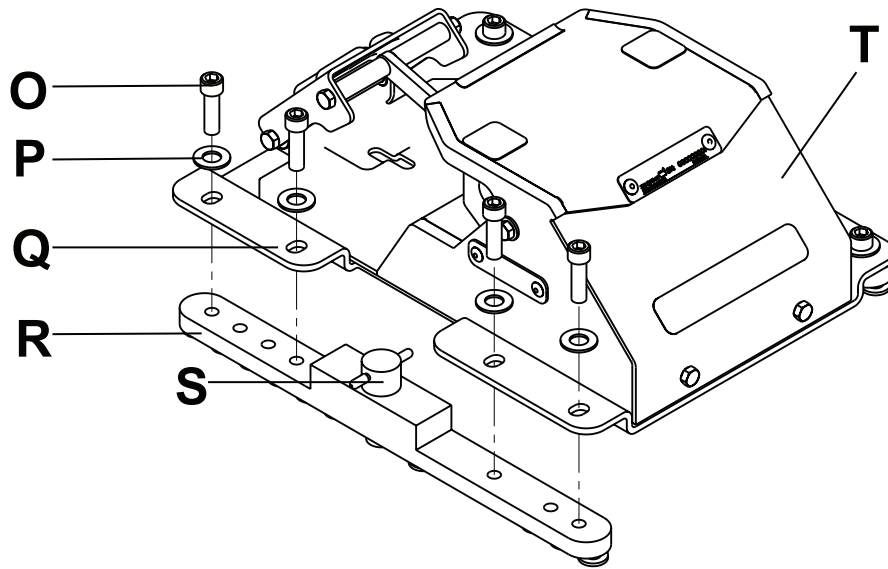

Figure 7 – Assemble the foot end fastener
1. Position the eight washers (P) between the eight screws (O) (four on each side) and the foot end fastener lock down base plate (Q) (Figure 7).
Note - Position the track mounted fastener (Unwin adaptor) (R) under the lock down base plate (Q) with the black arrow on the Unwin adaptor facing toward the head end of the ambulance (Figure 7).
2. Loosely tighten the screws (O) to attach the track mounted fastener (Unwin adaptor) (R) to the foot end fastener lock down base plate (Q) (Figure 7).
5. Unlock the plunger on the track mounted fastener (Unwin adaptor) (R) of the foot end fastener (T) by turning it counter-clockwise (Figure 7).
6. Disengage the plunger (S) by lifting up with the plunger key and turning the plunger one-half of a revolution (Figure 7).
8. Engage the plunger (S) and lock the track mounted fastener (Unwin adaptor) (R) to the floor track by turning the plunger key clockwise (Figure 7).